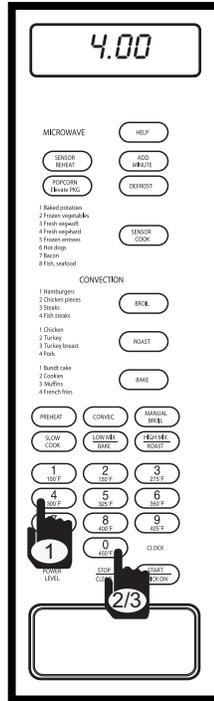

Figure 3-30.
1. Enter desired cooking or defrost time duration. For example: 4 minutes; press the number 4 key, and number 0 key twice (See Figure 3-30), the display will flash "4.00 - PRESS - START - OR - PRESS - POWER - LEVEL".